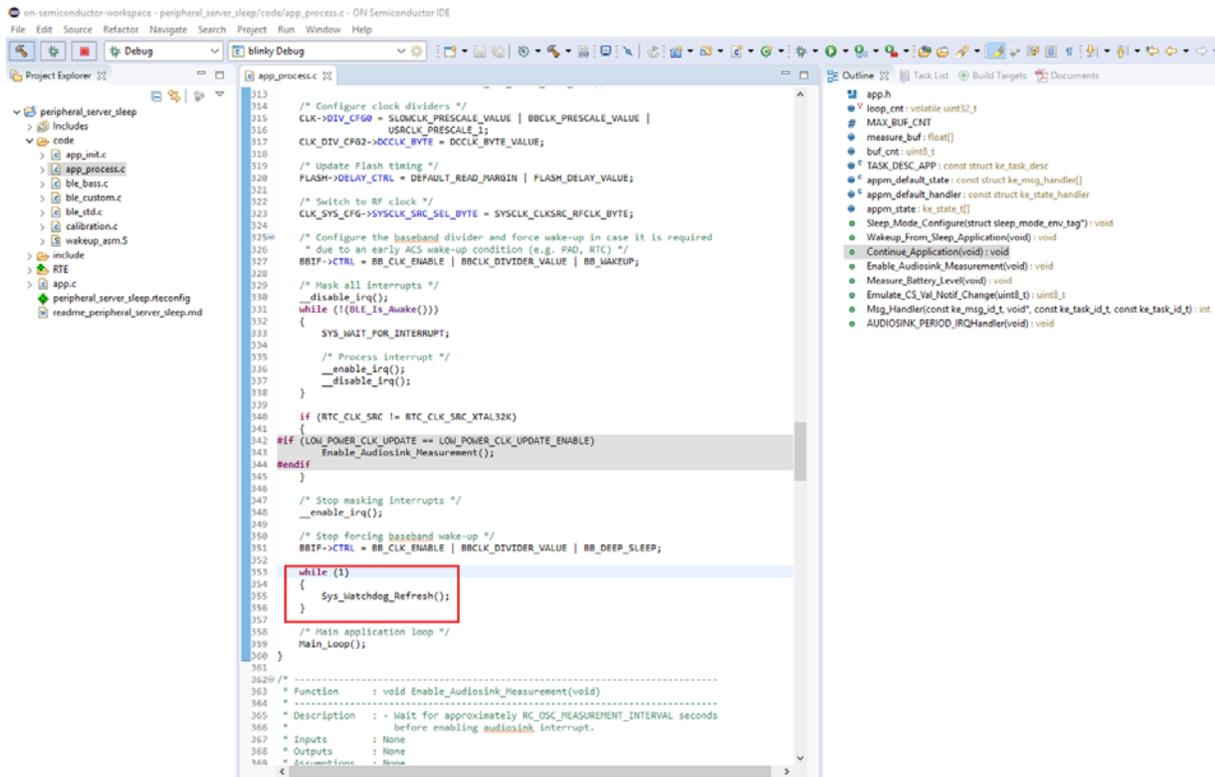

Figure 45. Continue_Application Function Perspective After Adding While Loop
2. Modify the function `void Continue_Application(void)` by adding a `while` loop before the `Main_Loop();` call, to make sure that the device stays awake in the infinite loop after waking up (see Figure 45). Save and compile your application.